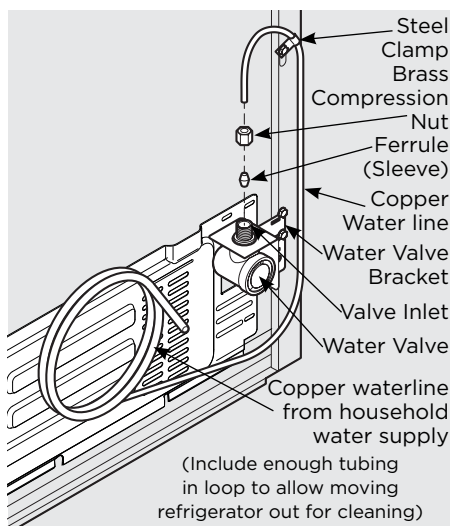

Figure 1
4. **If you use copper tubing** - Slide brass compression nut, then ferrule (sleeve) onto water supply line. Push water supply line into water valve inlet as far as it will go ($\frac{1}{4}$ inch/6.4 mm). Slide ferrule (sleeve) into valve inlet and finger tighten compression nut onto valve. Tighten another half turn with a wrench; DO NOT over tighten. See Figure 1.